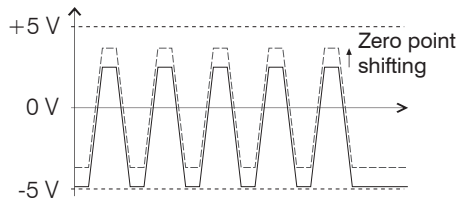

Fig. 14 Output signal on the controller, optimum zero point
- ➡ Shift the zero point with the potentiometer “zero“ until you get a symmetric output signal, see Fig. 14.